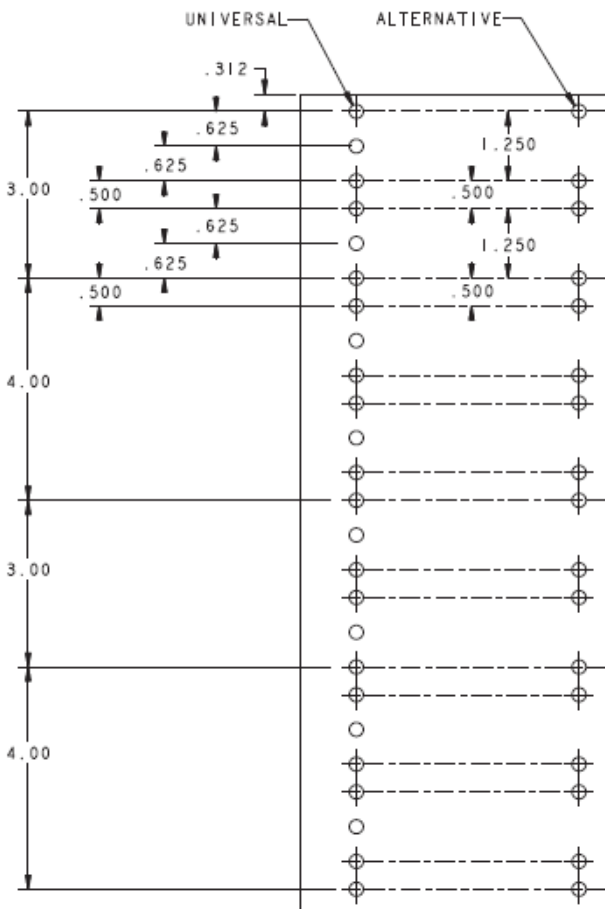

Figure 1
- EDGE Mounting brackets fit "Universal" and "Alternative" hole spacing per ANSI/EIA-310-D-1992 (See Figure 1) and reference: <http://www.server-racks.com/eia-310.html>
- Panel Height (H) typically specified in Rack Units "U" where: